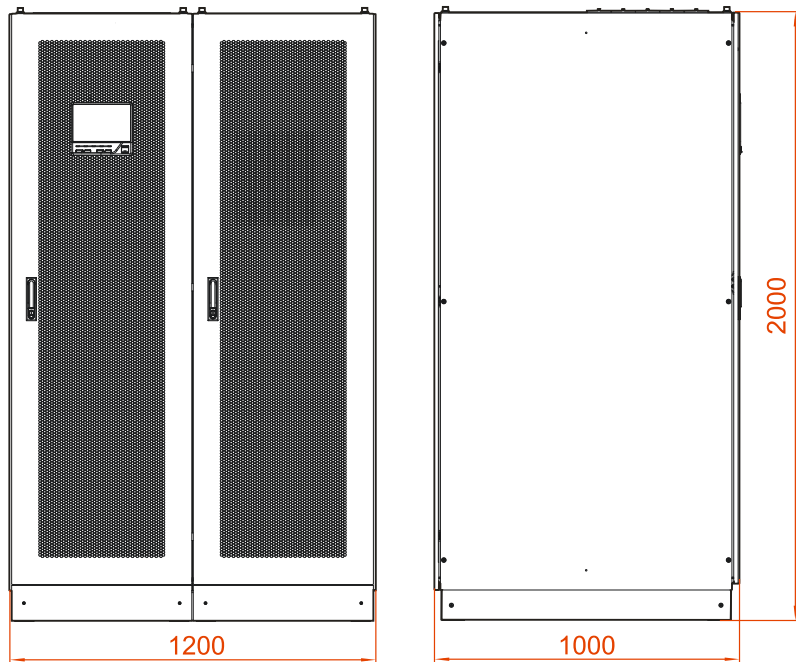
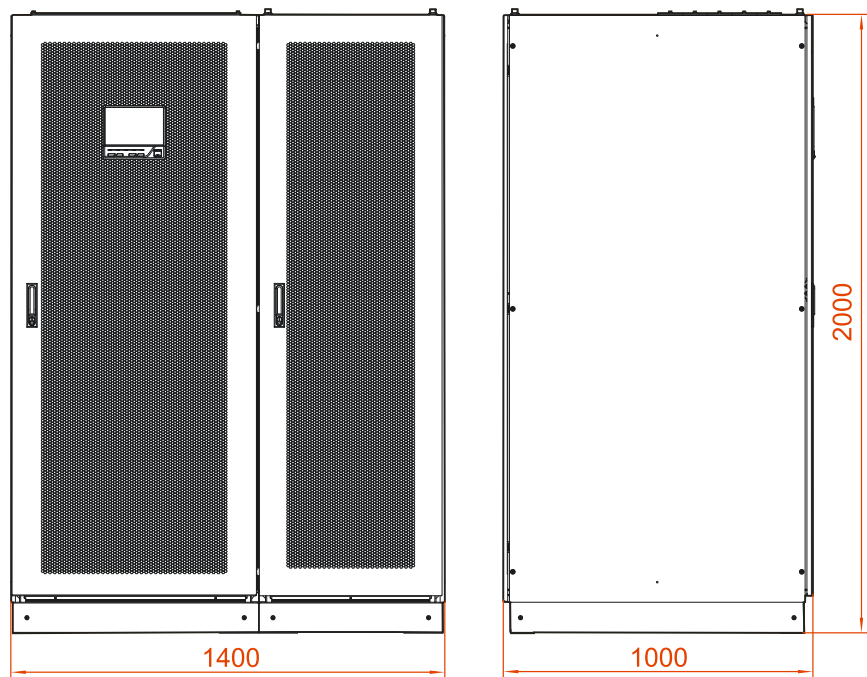
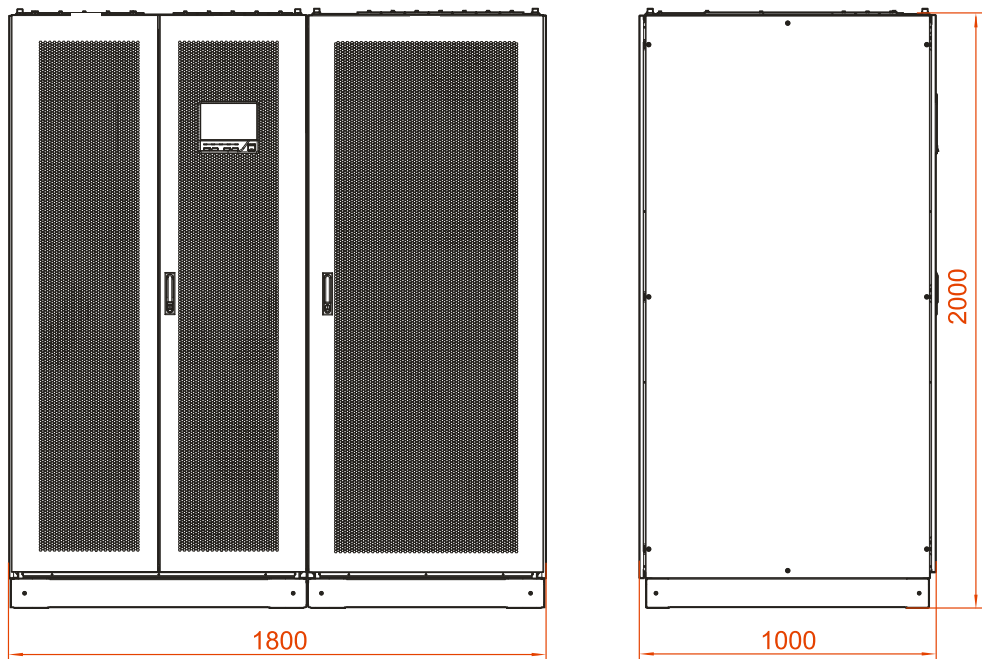

Figure3-7 Size of IST6400, IST6500 and IST6600(unit: mm)
Figure3-8 Size of IST6800(unit: mm)
Figure3-9 Size of IST61000 and IST61200(unit: mm)
Step 1 Determine and plan the installation position according to the UPS size (as shown in Figure3-7, Figure3-8 and Figure3-9) and installation clearance requirement (see **3.2.3 Installation Clearance**).